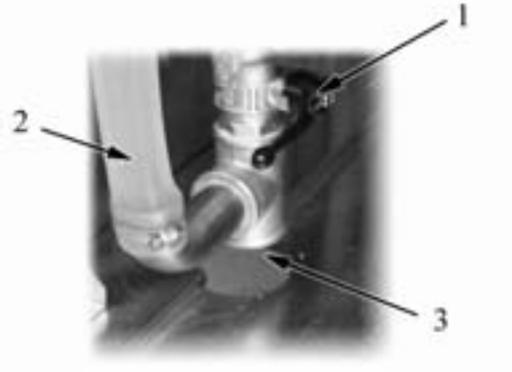

Fig. 3
First check that the drain valve is closed. (pos. 1, fig. 3).